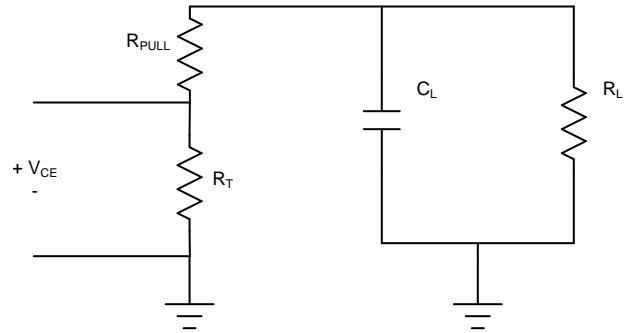

Figure 17. QOD - Resistive Pull-Down
- $V_{OUT}(0)$ is the initial output voltage (5)
- If the transistor is in saturation mode, it acts as a resistor in series with the pull down resistor. This pulls current out of the load capacitance based on the output voltage at a given time. An example circuit is shown in Figure 17. In this mode, the current pulled out of the capacitor follows the typical RC Discharge Equation as described in the Load Capacitance section.